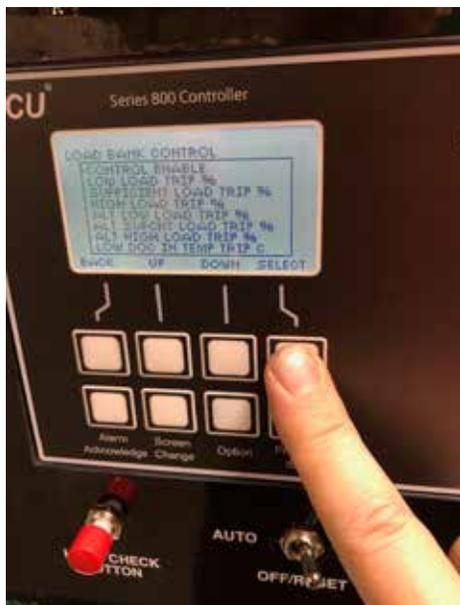

Figure 27. Control Enable (Select)
7. Press the **SELECT** button (Figure 27).